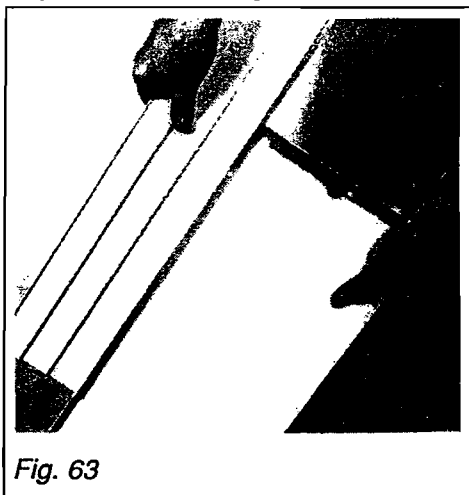

Fig. 63
- slide closure piece on to flange on rear edge of boiler side panel. Fig.63.